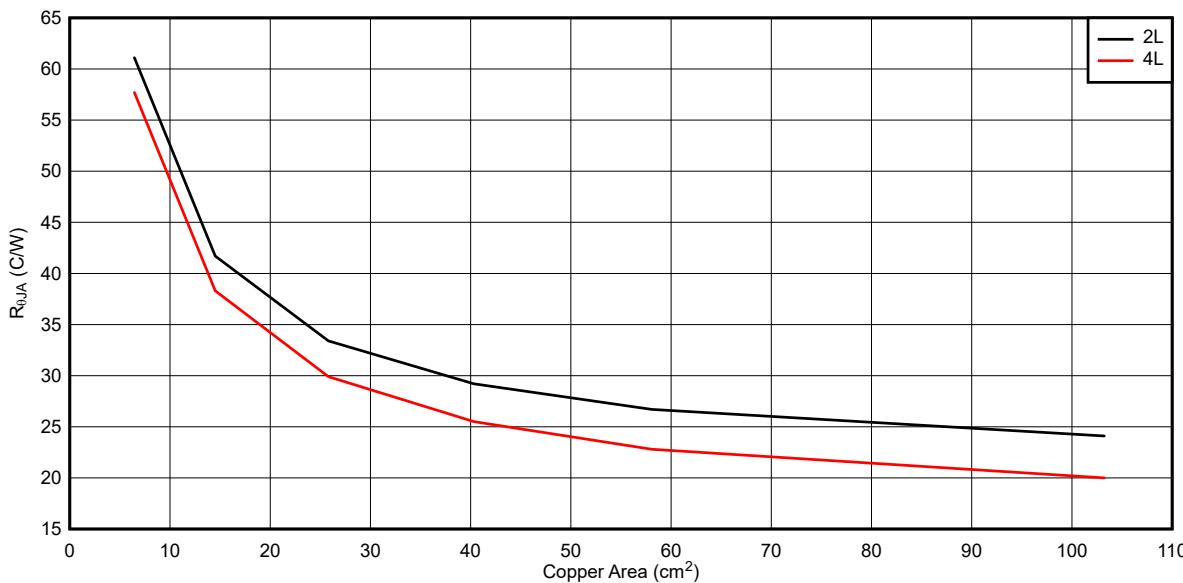

图 10-3. Typical $R_{\theta,JA}$ Versus Copper Area
The LM5013-Q1 features a die attach paddle, or "thermal pad" (EP), to provide a place to solder down to the PCB heat-sinking copper. This provides a good heat conduction path from the regulator junction to the heat sink and must be properly soldered to the PCB heat sink copper. Typical examples of $R_{\theta,JA}$ can be found in 图 10-3. The copper area given in the graph is for each layer. The top and bottom layers are 2-oz copper each, while the inner layers are 1 oz. Remember that the data given in this graph is for illustration purposes only, and the actual performance in any given application depends on all of the previously mentioned factors.
the user can calculate the required $R_{\theta JA}$ of about 30°C/W . Based on 图 10-3, the required copper area is about 40 cm^2 for a two-layer PCB.